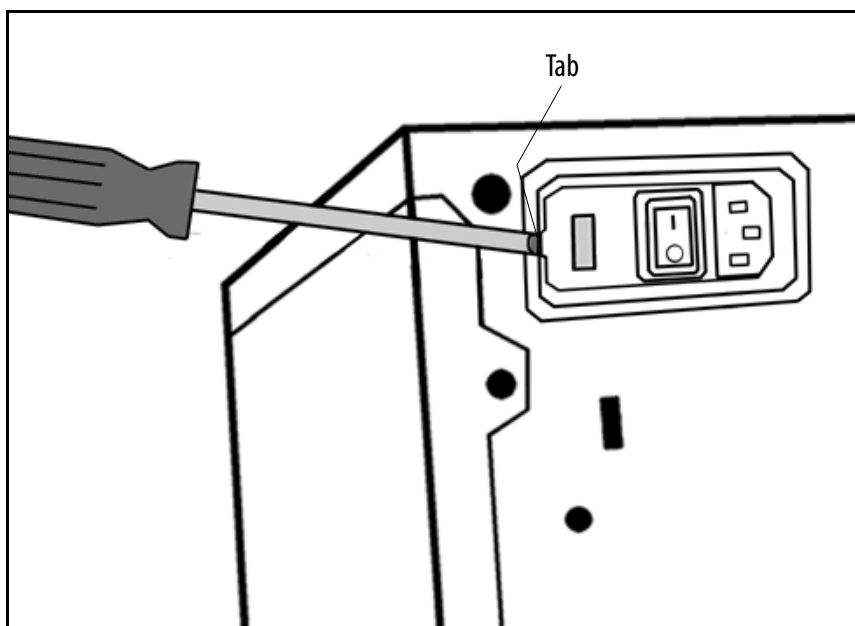

Figure 7-3 Use a screwdriver to pry open the fuse drawer door.
2. On the back of the library, open the fuse compartment by prying under the short tab with a small screwdriver (Figure 7-3).